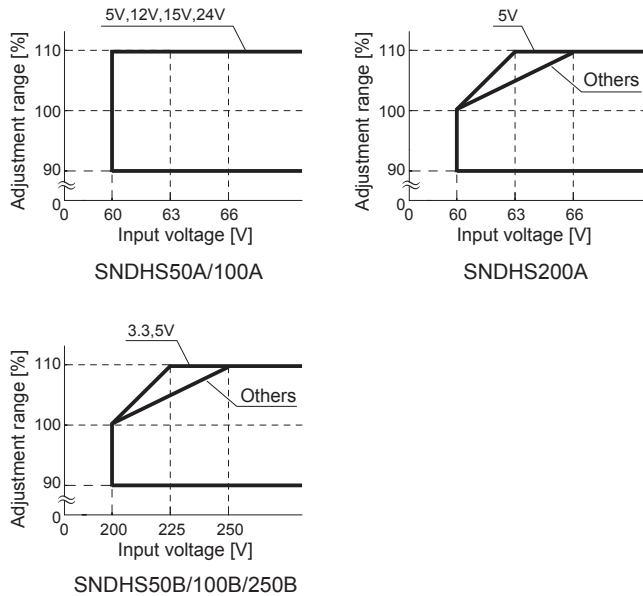

Fig. 4.3 Output voltage adjustment range
■ When the input voltage is 60-66VDC or 200-250VDC, the output voltage adjustment range becomes as shown in Fig.4.3.